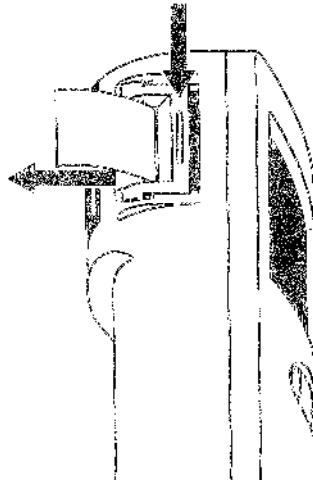

Figure 11: Removing Paper Exit Door
- d. If the previous attempts fail to clear the jam, then first remove the paper exit door. To do so, use both hands and firmly press down and push toward the back of the unit to remove the door (see Figure 11), taking care not to rip the paper any further. Carefully lift the door away from the N-20P. Repeat steps a through b.